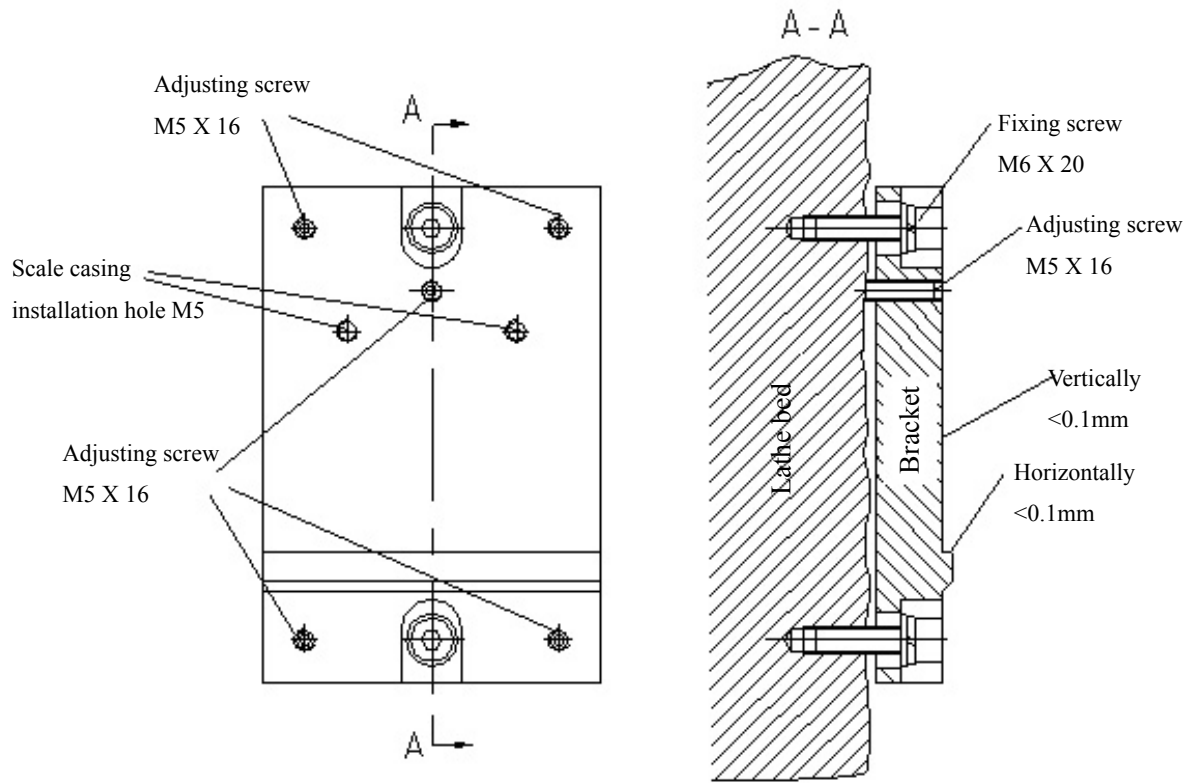

Fig. 5.17 Installation method for bracket adjustment
Installation method: Install and adjust securely the brackets to the designated position on the lathe bed, with each bracket corresponding to connection position of the magnetic scale. Adjust to the brackets within 0.1mm horizontally and vertically on the installation reference face by adjusting the screws. The method for bracket installation is as shown in Figs. 5.17 and 5.18.
- (1) Installation of bracket: Drill M6 screw holes to install a bracket. For installation method and dimensions, see Figs. 5.17 and 5.18.